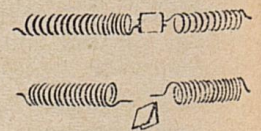

Fig. 20
2. Fastening the broken ends together with a metal sleeve. Fig. 20.